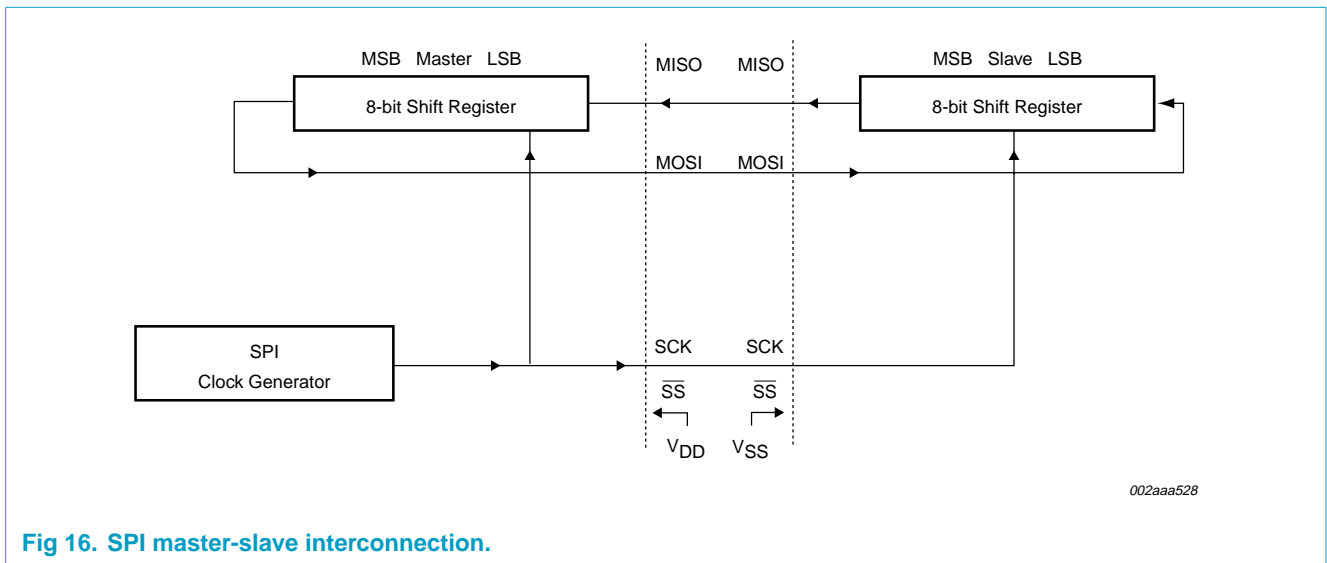

Fig 16. SPI master-slave interconnection.
The serial peripheral interface (SPI) allows high-speed synchronous data transfer between the P89LV51RD2 and peripheral devices or between several P89LV51RD2 devices. Figure 16 shows the correspondence between master and slave SPI devices. The SCK pin is the clock output and input for the master and slave modes, respectively. The SPI clock generator will start following a write to the master devices SPI data register. The written data is then shifted out of the MOSI pin on the master device into the MOSI pin of the slave device. Following a complete transmission of one byte of data, the SPI clock generator is stopped and the SPIF flag is set. An SPI interrupt request will be generated if the SPI Interrupt Enable bit (SPIE) and the Serial Port Interrupt Enable bit (ES) are both set.